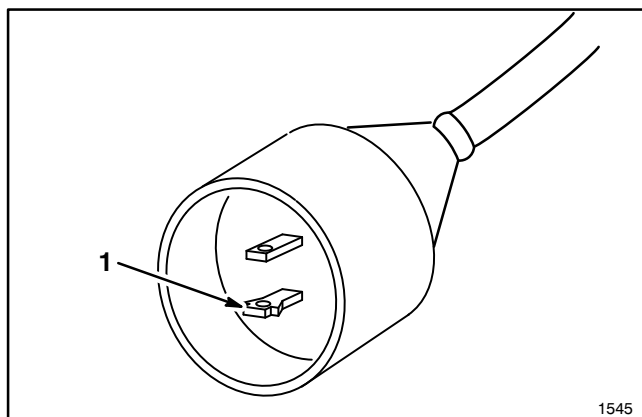

Figure 3
6. Do not use the snowthrower on gravel or crushed rock surfaces unless used in accordance with Operating Instructions; refer to page 5, item 5.
8. To reduce the risk of electric shock, this appliance has a polarized plug (one blade is wider than the other) (Fig. 3) and will require the use of a polarized extension
Your unit has a polarized plug. This means one prong in the Power Shovel cord is larger than the other (Fig. 3). When inserting the end of a suitable extension cord into the Power Shovel cord, be sure to insert the enlarged prong into the wide slot in the extension cord end. See Safety Instructions, item #8, for additional information.